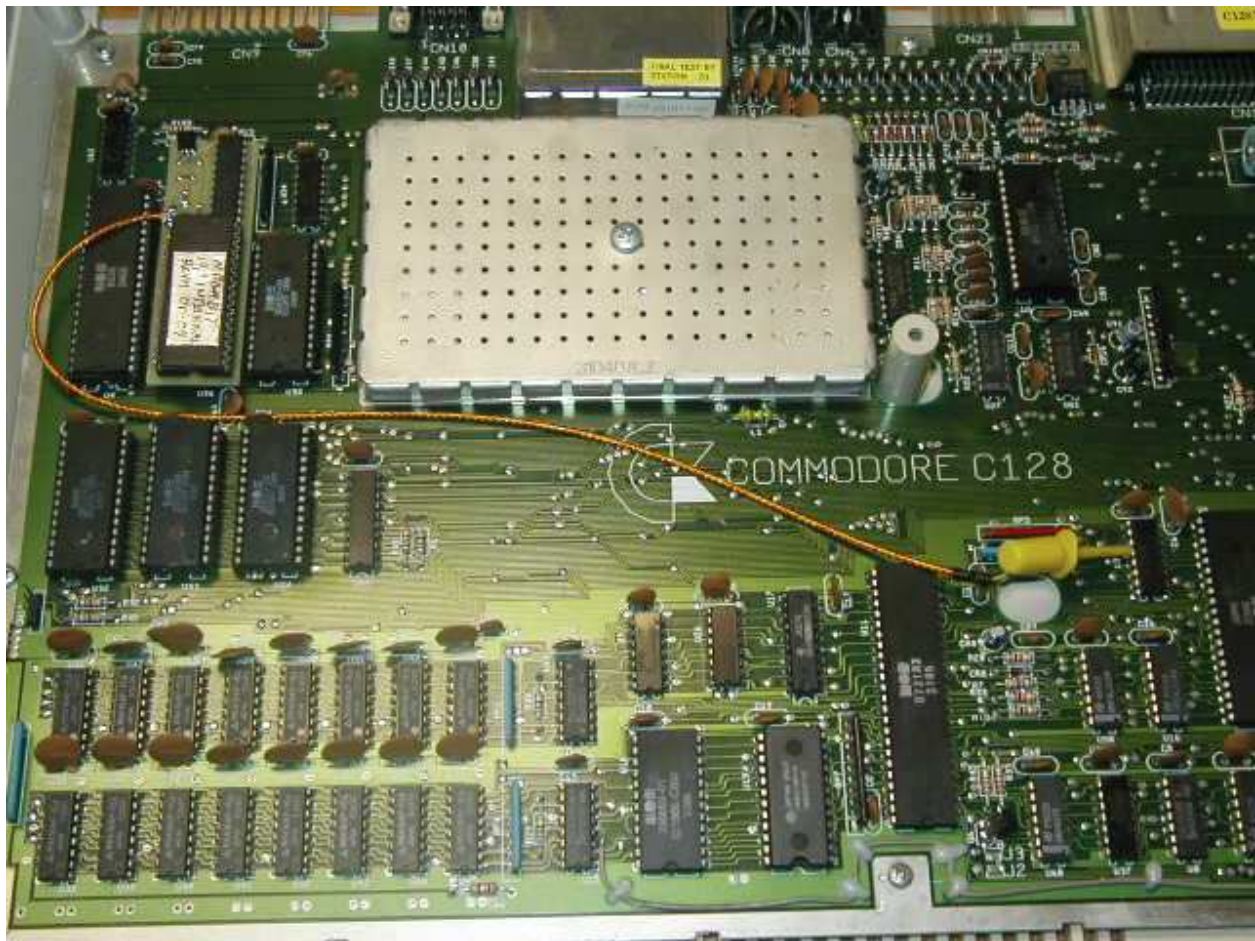

FIGURE 1: C128 INSTALLATION
5. Notice the empty 28-pin IC socket at the upper left side of the PCB. There may be 2 or 3 disk caps standing up that will be in your way when you install the adapter. Push them over flat against the PC Board. Install the adapter in the socket. Install the mini clip to pin 12 of IC U3. See Figures 1 and 2.